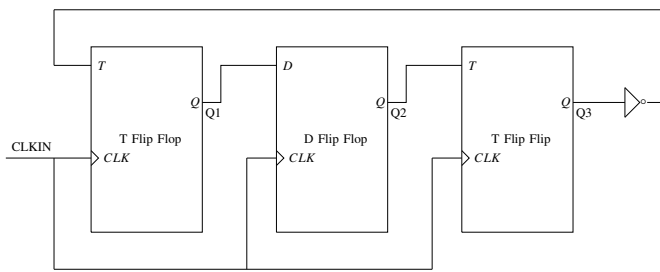

Fig. 5.11
11. Consider a sequential digital circuit consisting of T flip-flops and D flip-flops as shown in Fig. 5.11. CLKIN is the clock input to the circuit. At the beginning,  $Q_1, Q_2$  and  $Q_3$  have values 0, 1 and 1, respectively. Which of the given values of  $(Q_1, Q_2, Q_3)$  can NEVER be obtained with this digital circuit?